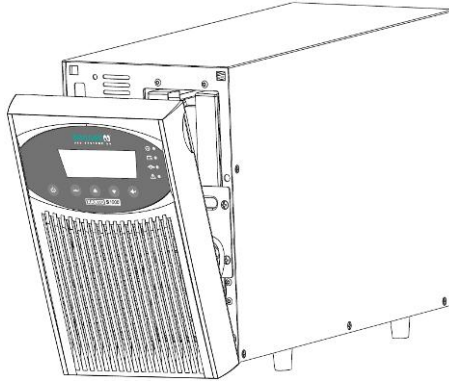

Figure 14: Removing the front cover from the UPS system
1. Remove the front cover of the UPS system (see Figure 14).